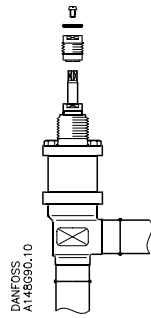

Fig. 7
**Removal of packing gland (fig. 7)**